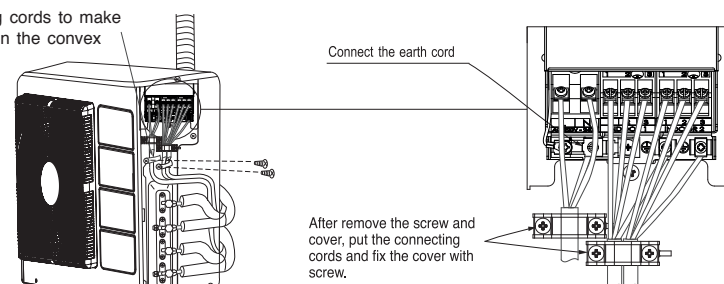

Fig. 1-3
- (2) Connect the connecting cord and power cord to the terminal board. (Fig. 1-3)
- (3) Fix the connecting cords and power cord with steel band certainly. (Fig. 1-3)